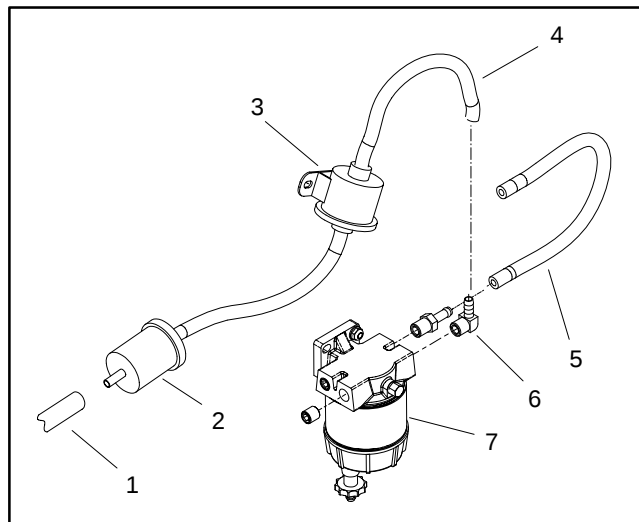

Figure 35
The fuel pump used on the Groundsmaster 3280-D (diesel engine) is attached to the support bracket inside the right side frame near the fuel/water filter (Fig. 35).
3. Disconnect fuel pump discharge hose from the water separator inlet fitting (Fig. 35).